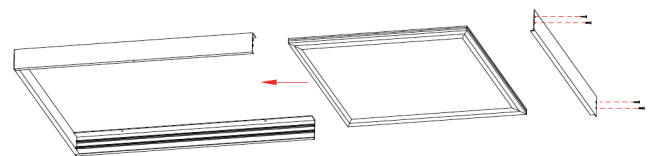

Fig. 14
3. Remove one side of the frame and slide panel into frame (Fig. 14)